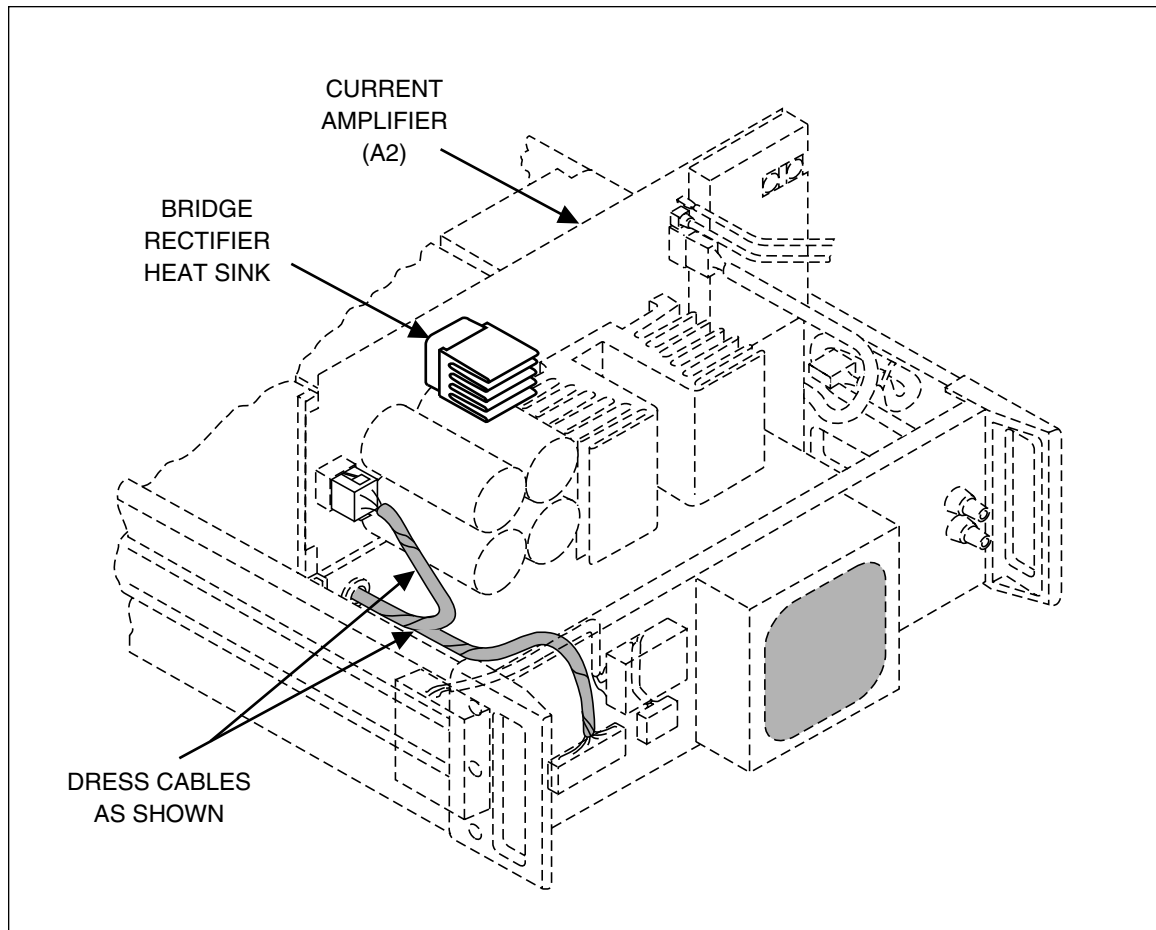

Figure 6-6. Correct Way to Dress Cables
When reinstalling the assembly, refer to Figure 6-6 and make sure cable harnesses are dressed as shown, to avoid shorting wires to the bridge rectifier heat sink or chassis.
**When reinstalling the assembly, refer to Figure 6-6 and make sure cable harnesses are dressed as shown, to avoid shorting wires to the bridge rectifier heat sink or chassis.**